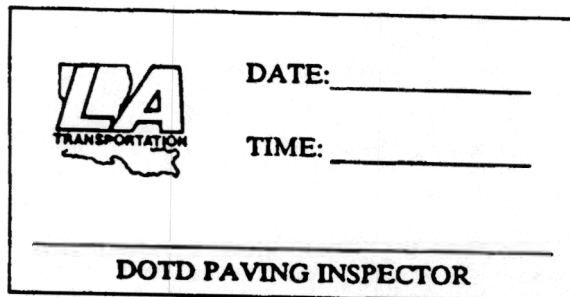

Figure 1: DOTD Tamper-Proof Sticker
4. Have the DOTD inspector label the samples with tamper-proof stickers (see Figure 1) showing the date and time of sampling and the signature of the inspector. (These stickers are available from the Materials and Testing Section).